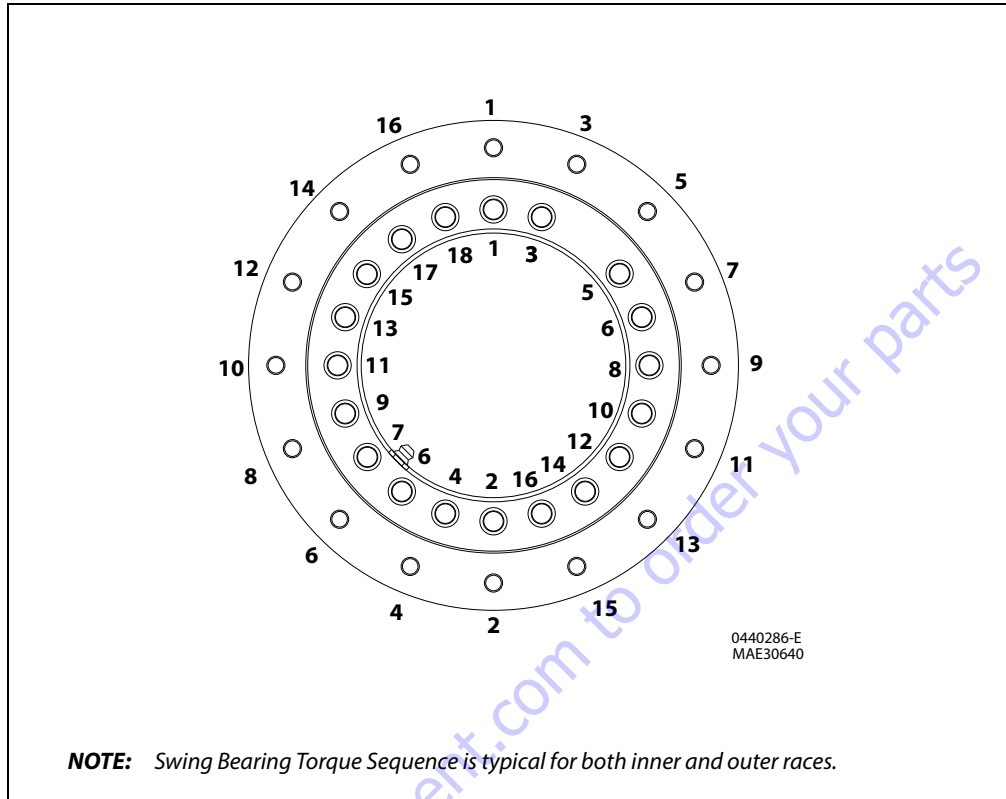

Figure 3-29. Swing Bearing Torque Sequence
Refer to the Torque Sequence diagram as shown in Figure 3-29., Swing Bearing Torque Sequence. Spray a light coat of Safety Solvent 13 on the new bearing bolts. Then apply a light coating of JLG Threadlocker 0100019 to the new bearing bolts, and install the bolts and washers through the frame and outer race of the bearing. Note the position of the two shorter bolts as shown below. Tighten all bolts to an initial torque of 115 ft. lbs. (155 Nm) w/Loctite.
14. Following the Torque Sequence diagram shown in Figure 3-29., Swing Bearing Torque Sequence, tighten the bolts to a torque of 118 ft.lbs. (160 Nm) w/Loctite.